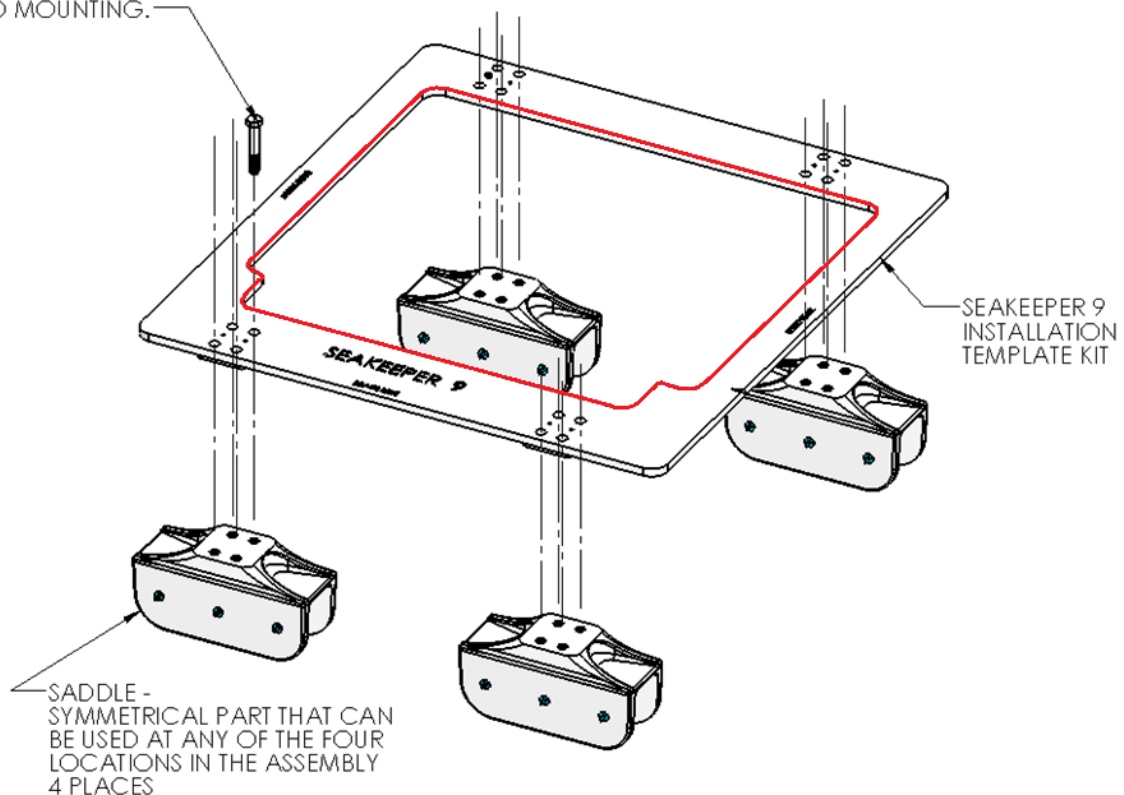
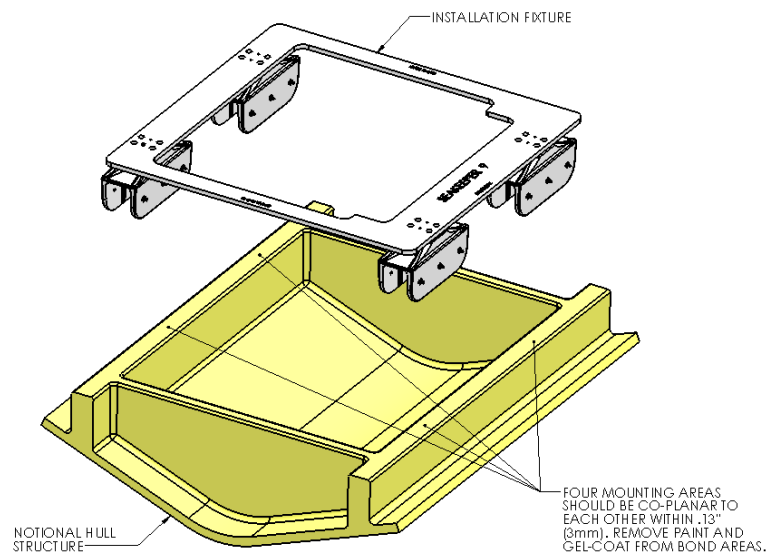
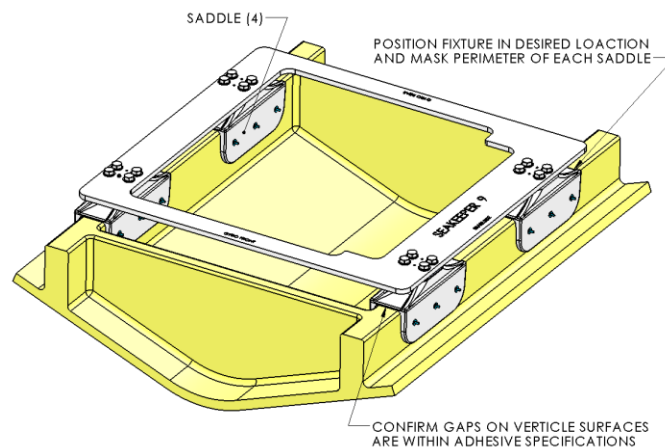

FIGURE 6 – EXPLODED VIEW OF SADDLE INSTALLATION FIXTURE
FIGURE 8 - INSTALLING FIXTURE ON HULL
FIGURE 9 - MASKING PERIMETER OF SADDLES
Seakeeper provides an installation fixture template, P/N 90253 that locates the saddles at the proper spacing both in the fore-aft direction and the port-starboard direction. See Figures 6, 7 & 8 below. Once assembled with the provided saddle fittings, the fixture can be used to check clearances and alignment of the hull structure. The fixture will allow the builder / installer to lay-up and adjust the foundation dimensions to create a low-clearance fit between the Seakeeper foundation saddles and the hull structure. Shear strength of the adhesive will be maximized if the
- 1) Position installation fixture (Fig 8) on hull girders noting recommended clearances for maintenance from Figure 2. Check that the screws fastening the saddles to the installation fixture are tight (Fig 6).
- 2) Mask hull area (Fig 9) around foundation saddles for easy clean-up and to create outline of surface area to receive adhesive as (Fig 8). Insure that the bond gap is within the manufacturer's recommended thickness, or 3 mm if using Plexus MA590.
- 3) Raise fixture clear of foundation. Check all four mounting areas are co-planar to within .13" (3 mm) to each other, as well as parallel to the water line plane, as shown in Fig 8.
- 5) Remove any paint or gel-coat from bond surfaces so that adhesive will bond directly to laminate fibers and resin as shown in Figure 8.
- 1) Ensure that screws fastening saddles to the installation fixture are tight (Fig 6).